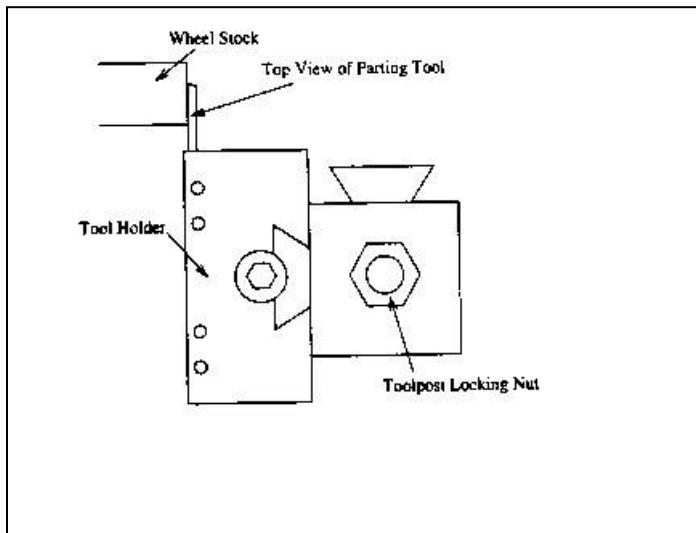

Figure 35: Aligning the Parting Tool So It Is Perpendicular.
- (a) Loosen the two nuts (or Allen screws) in front of and behind the compound rest with the $\frac{1}{2}$ " wrench or suitable Allen wrench. See Figure 35.